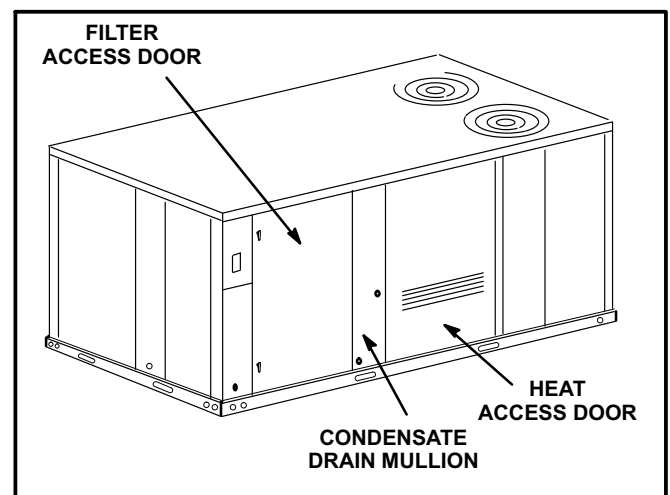

FIGURE 5
- 1- Remove heat access door. See figure 5.